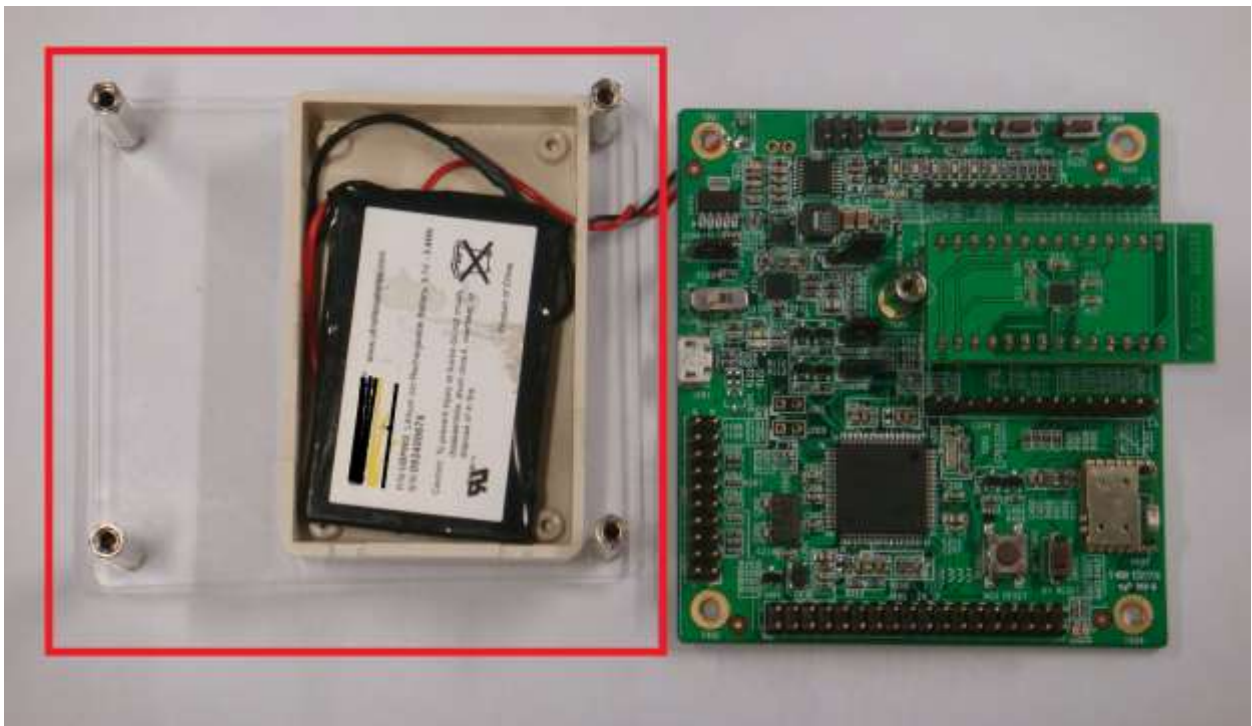

Figure 2: Application Board 2.0 BT Dock
The Battery dock is labeled in red (Figure 2), the size of the battery box is 53(L)*30(W)*10 (D) mm³, mounted on a plexiglass which has same dimensions as Application Board 2.0 BT board.